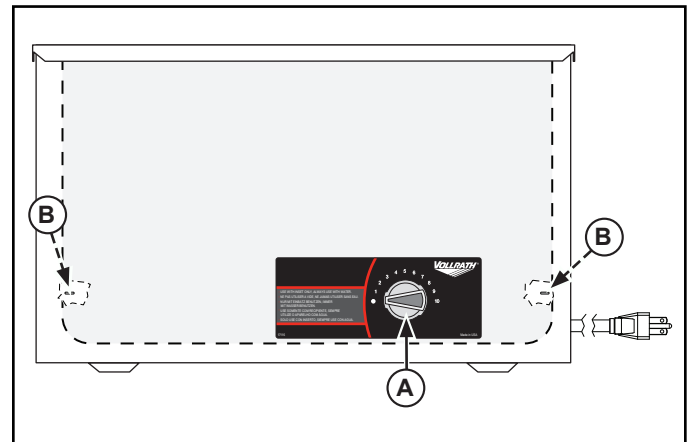

Figure 1. Features and Controls
1. Fill the well to the correct level marks (B) with clean fresh water. The correct level is about 1" (2.5 CM) or approximately 5.5 quarts (5.2 L) of water. Do not over fill. See Figure 1.
3. Preheat the water in the wells by covering wells with empty food containers or covers. Turn the ON/OFF and heat control switch (A) to the maximum heat setting (10). Preheat for 15 minutes.